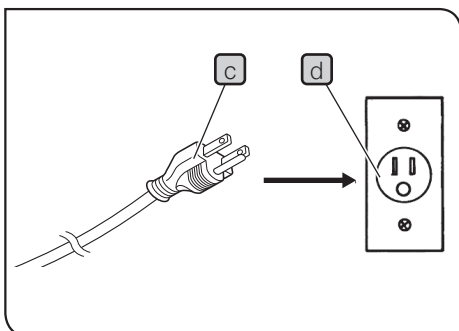

Fig.49
- 2 Plug the power cord plug **g** into the wall outlet **h**. (Fig.49)